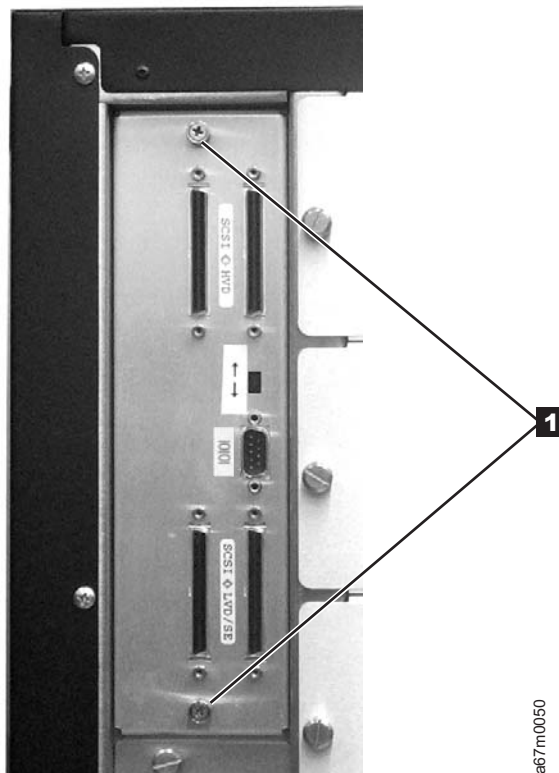

Figure 8-37. Host SCSI Interface Board. This board will be present in a converted library; however, only the serial port will be utilized.
3. Loosen the two captive screws on the Serial Diagnostic Port Board (or Host SCSI Interface Board in a converted library), (See Figure 8-37 on page 8-45 **1**), then remove the Host SCSI Interface Board from the Main Board.
See Figure 8-37 for locations of components in the following procedure.
See Figure 8-37 on page 8-45 for locations of components in the following procedure.